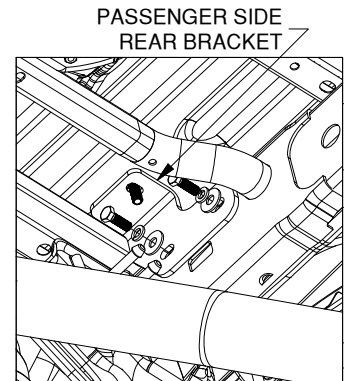

Figure C5: View looking up at passenger side frame.
6. **Install the passenger side rear bracket.** Locate the passenger side rear bracket, two M12 x 35mm hex head bolts (shorter), two 1/2" split lock washers, and two 1/2" flat washers. Position the bracket under the installation location of the rear passenger side carriage bolt. Maneuver the bracket so that the 1/2" carriage bolt passes through the slot at the top of the bracket. Using 1/2" lock washers and 1/2" flat washers, thread the shorter (35mm) M12 hex head bolts into the frame through the holes in the bracket, see Figure C5.